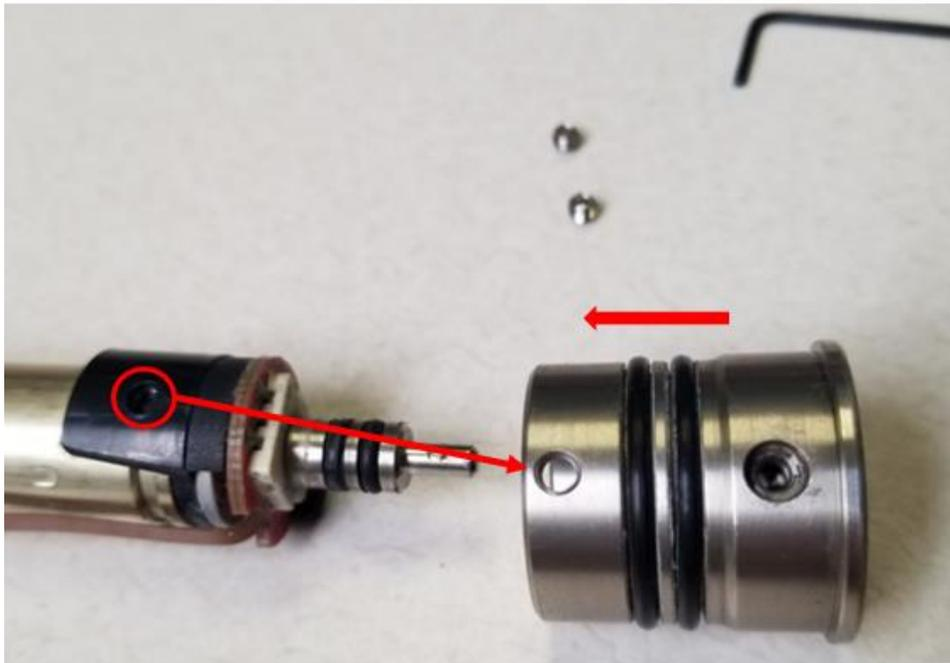

Figure 160. Align holes
**(Figure 160).** Hand tighten, do not overtighten or force it.